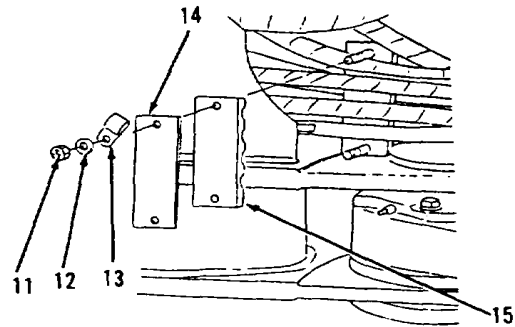

Figure 16-3.
- 30. Install clamp (15), plate (14), clip (13), two washers (12) and nuts (11, Figure 16-3) under right, front of engine compartment.